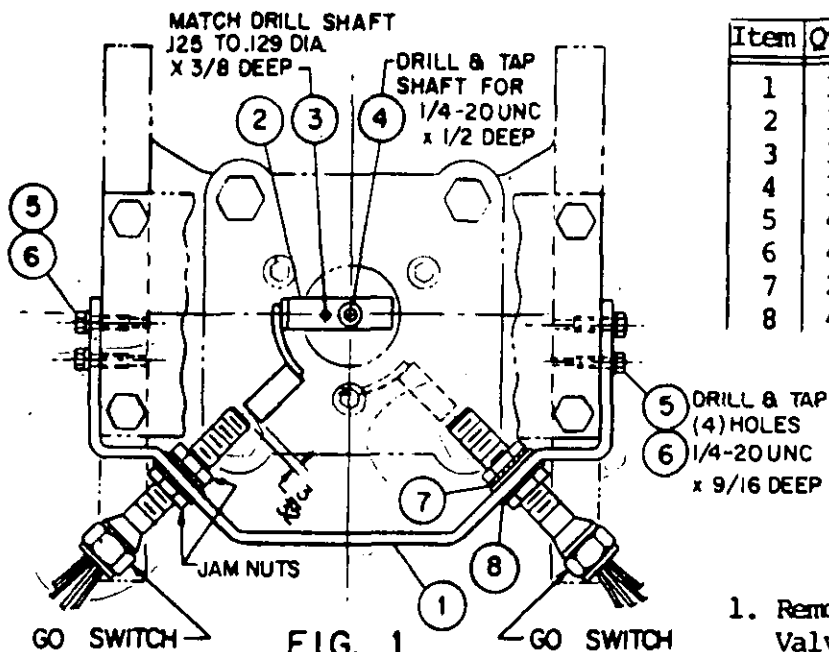

FIG. 1
4. Place Switch Activator (item 2) on shaft and secure with flat head screw (item 4). Then orient Switch Activator as shown in figure 1. Match drill shaft with hole in Switch Activator and drive roll-pin (item 3) into hole to prevent rotation.
5. Fit Mounting Bracket (item 1) to sides of Actuator mounting plate support and mark location of four mounting holes, drill and tap four 1/4-20 UNC x 9/16 dp. Then secure Mounting bracket (item 1) with items 5 & 6.
6. Insert GO Switches into slots on Mtg. Bracket (item 1) and secure with two jam nuts that come with switches and washers items 7 & 8.
7. Adjust Switches to sense Activator (item 2) in full open and full closed positions.